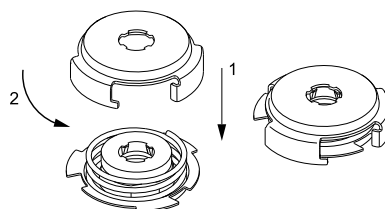

Fig. 19 Fitting the spring and driver
8. Fit spring (pos. 108) and driver (pos. 112). See fig. 19.